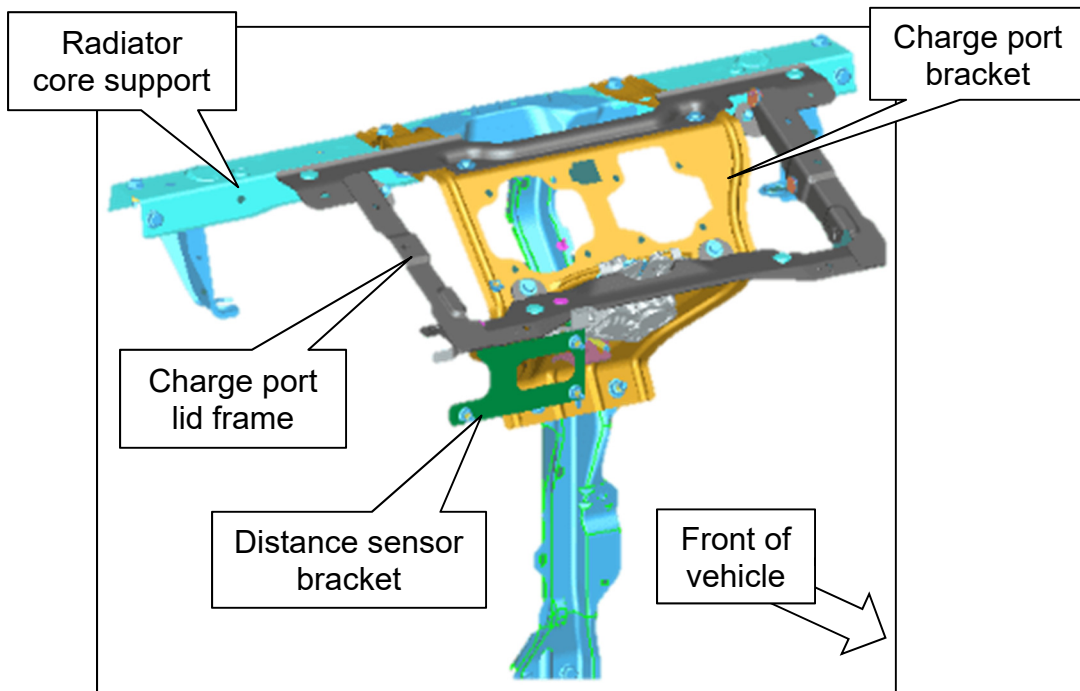

Figure 2
- Do not bend the charge port lid frame to adjust (Figure 2).
- Do not bend any of the components attached to the charge port bracket (Figure 2).
- Always perform an ICC Sensor Alignment (Radar Alignment Procedure) whenever any of the components called out in Figure 2 are removed or replaced.
**IMPORTANT:** Do not bend any of the components called out in Figure 2. If components do not align, one or more associated components may already be bent and must be replaced.